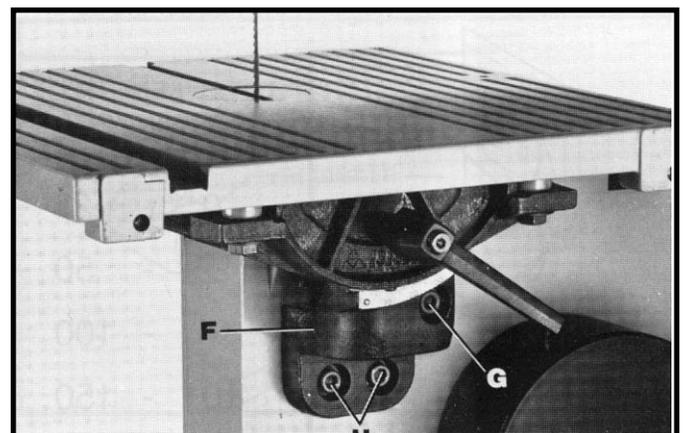

Fig. 9
2. Fasten table bracket (F) Fig. 9, to band saw frame using the 70mm (approximately 2-3/4" long) screw (G) and flat washer and the two 15mm (approximately 5/8" long) screws (H) and flat washers as shown.